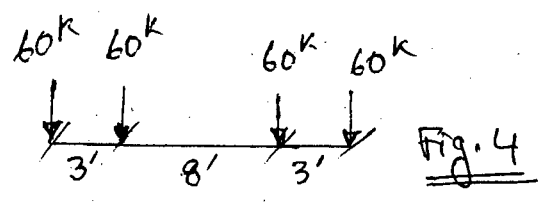

Fig. 4
4. Calculate the absolute maximum moment on a 60 ft span beam due to the load shown in Fig. 4 (21)